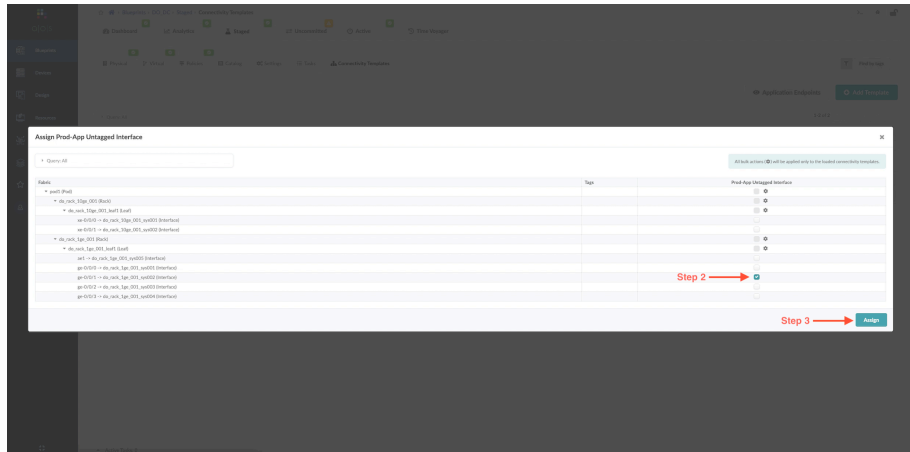

Figure 5.20 Assigning a Connectivity Template via Apstra
Step 2: Select the interface that the VNI should be assigned to. See Figure 5.20.